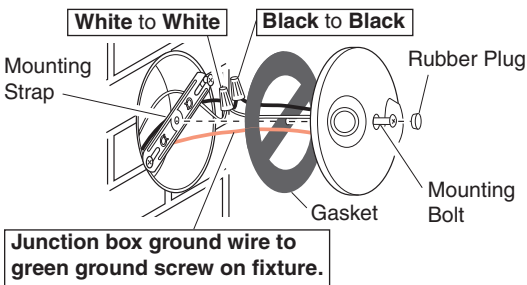

Figure 10 - Wiring Floodlight Converter
2. Install the mounting strap as shown using two screws that fit your junction box (see Figure 10).
3. Route the wires from the light receiver through the large gasket holes (see Figure 10).
4. Twist the junction box wires and fixture wires together as shown. Secure with UL approved wire connectors (see Figure 10).
5. Align the cover plate and cover plate gasket. Secure with mounting bolt (see Figure 10).
6. Push the rubber plug firmly into place (see Figure 10).